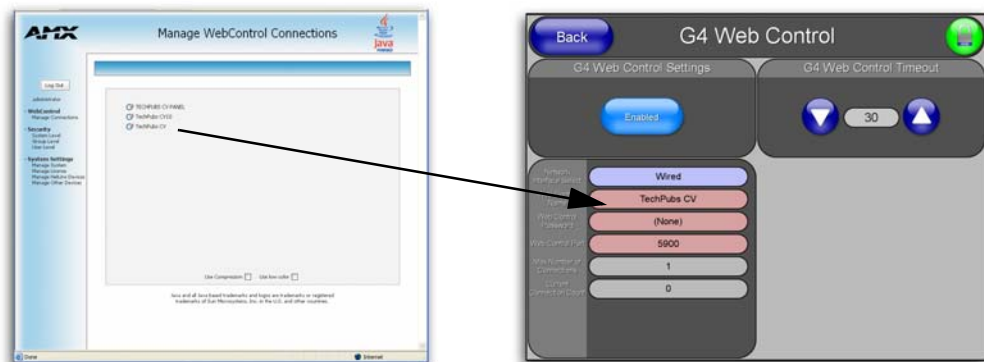

FIG. 89 Sample relationship between G4 Web Control and Manage WebControl Connections window
9. From the Web Name keyboard, enter a unique alpha-numeric string to identify this panel. This information is used by the NetLinx Security Web Server to display on-screen links to the panel. *The on-screen links use the IP Address of the panel and not the name for communication (FIG. 89).*